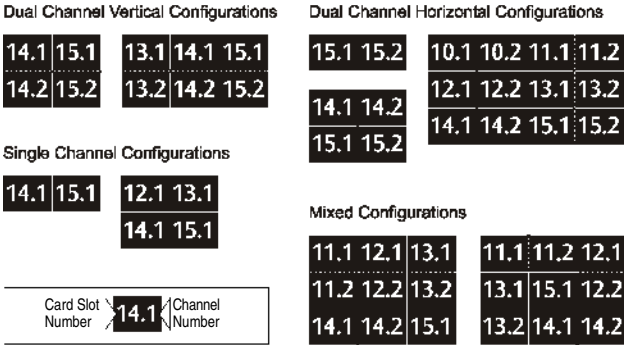

Fig.3: Example display layouts and channel configurations.
**IMPORTANT NOTE:** *There are two output channels on each Output Card and choosing from the Available Outputs list assigns the primary output (channel 1) to the screen. The secondary output (channel 2) is assigned automatically using the Second Output setting. (See Fig.3 for examples.)*